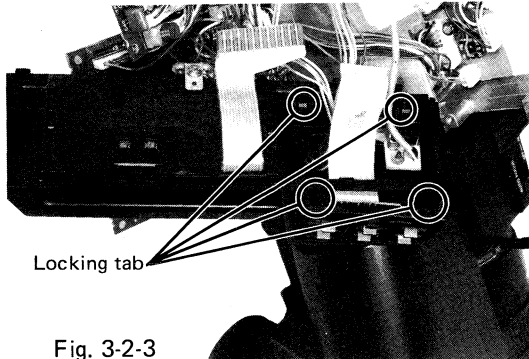
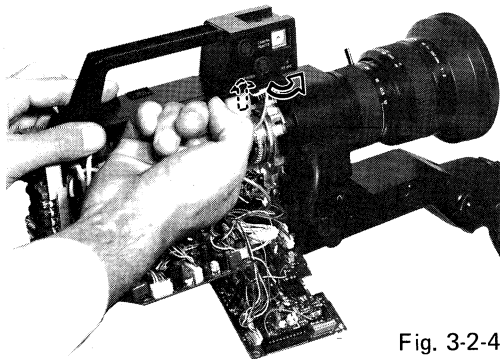

Fig. 3-2-3
Fig. 3-2-4
- Remove the key board (A) by pressing the key board locking tabs on the bottom inside of the key board to upward.
- Remove the Microphone connector and EVF board by the same procedure. (Fig. 3-2-3, Fig. 3-2-4)